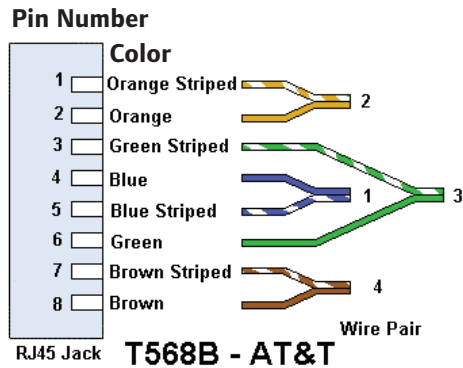

Figure D-4: Wire Arrangement
4. Arrange the wires from left to right in the following order (see **Figures D-4** and **D-5**).